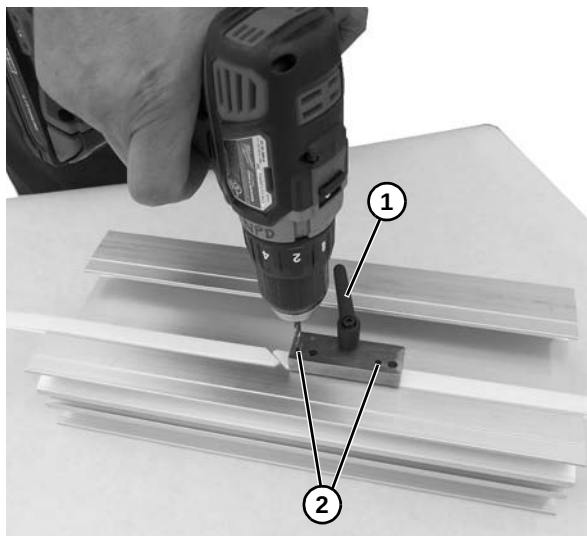

Figure 66
2. Using the wear strip replacement tool (**Figure 66, item 1**) drill two holes through the two small location holes (**Figure 66, item 2**) through the wear strip and frame using the #18 drill bit from the wear strip replacement kit.